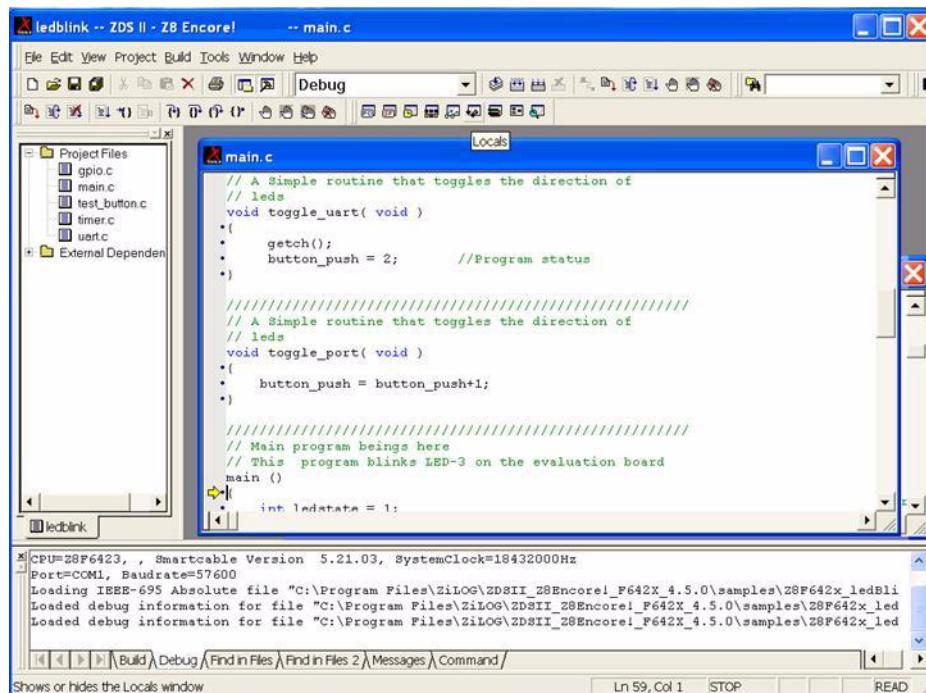

Figure 3. ZDSII Active Screen
10. Click Go to start the program. The screen changes as illustrated in Figure 3 on page 7.